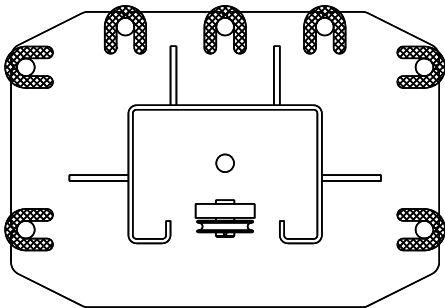

Fig 2 – Column Shimming
- 8) Shim both columns to plumb using the shims provided as shown in **Fig 2**. DO NOT shim more than 1/2" at any given point. Use a level no less than 24" in length to plumb columns.
- 13) Check idler column shimming. Use additional shims (**see Fig. 2**) to remove any gaps that may have been created while installing overhead beam. Tighten anchor bolts and re-check column for plumb. Torque to 150 foot-pounds.